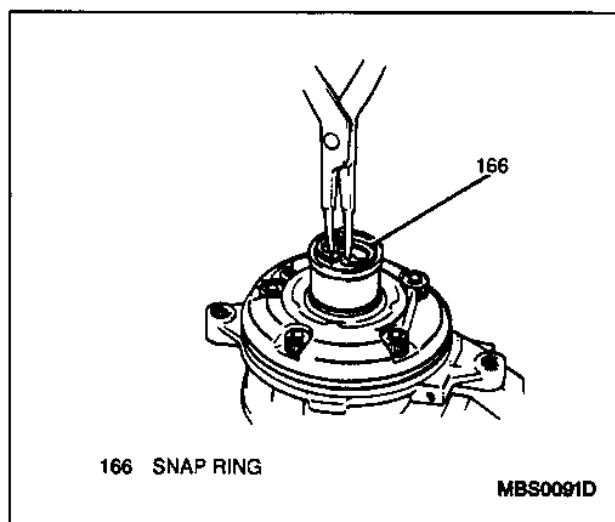

Figure 8—Removing Snap Ring
Figures 8 through 11
4. Snap ring, using appropriate snap ring pliers (Figure 8).